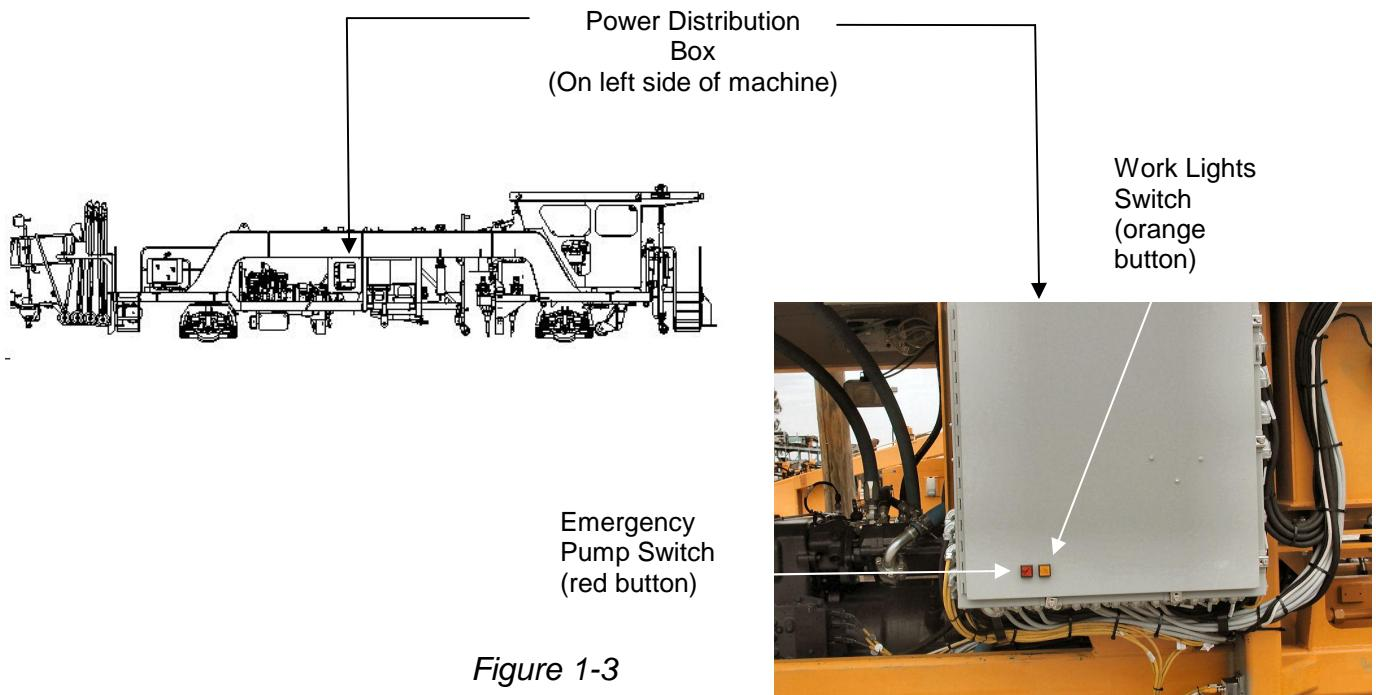

Figure 1-3
If there is a problem with the engine or the hydraulic system and the working components are NOT in their safety locks, IE workheads, clamp frame, etc., the emergency pump can be used to place the working components in their safety locks. Press (inward) the **EMERGENCY PUMP ON/OFF PUSH BUTTON** (red) to activate (start) the emergency pump. The emergency pump switch is located on the Power Distribution Box cover the left side of the machine. Once the pump has started, have someone activate the control(s) for the desired work component to raise it into its safety lock. *Raise only one (1) component at a time.* When all of the work components are secured in their safety locks, turn the emergency pump OFF by releasing the button. Refer to Figure 1-3 and 1-4.